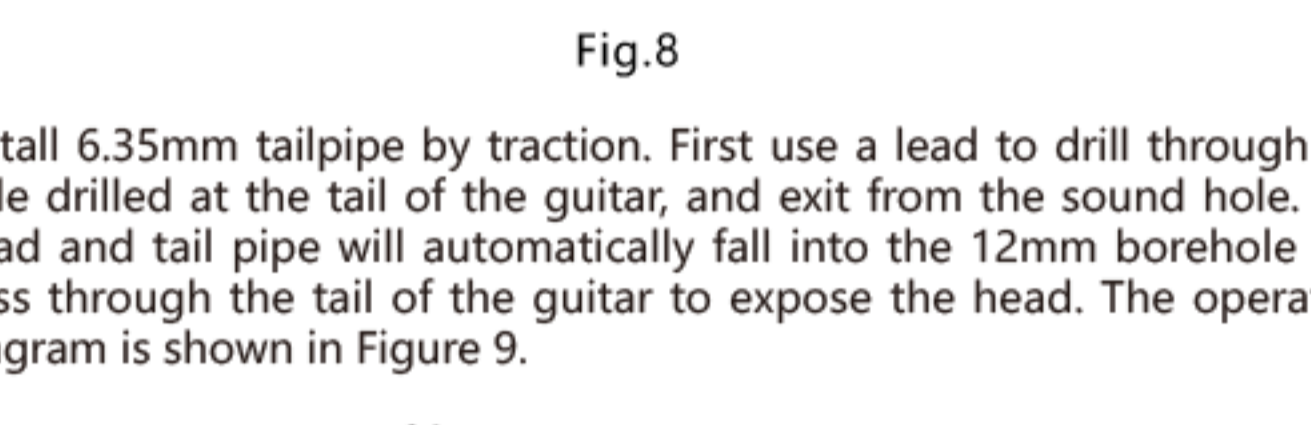

Fig.7
1. After making all the mounting holes for the Bar pickup, the next step is to install the pickup and fix the internal wiring. Since the piano code is relatively close to the sound hole, it is easy to reach the lead of the piezoelectric probe by hand, so first reach into the sound hole by hand to take out the lead of the piezoelectric probe, insert the 2.5mm plug of the piezoelectric probe into Bar At the rear of the pickup, the operation diagram is shown in Figure 7.